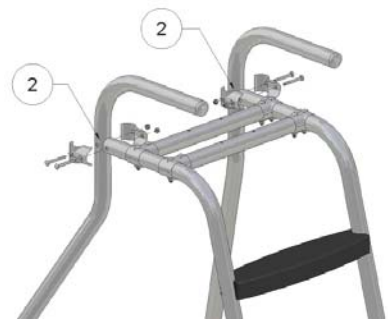

Fig. 9
Step 5) With a split tee, attach one rear support rail to the front support rail at the joint, *labeled 2*. Loose assemble. **See Figure 9.** (The bottom portion of this rail should splay outward from the seat support rails. *See Figure 11* for clarification).
Step 6) While one person holds the unit in an upright position, attach the other rear support rail to the other front support rail with a split tee at the joint *labeled 2*. The chair should now be free standing. Loose assemble. **See Figure 9.**